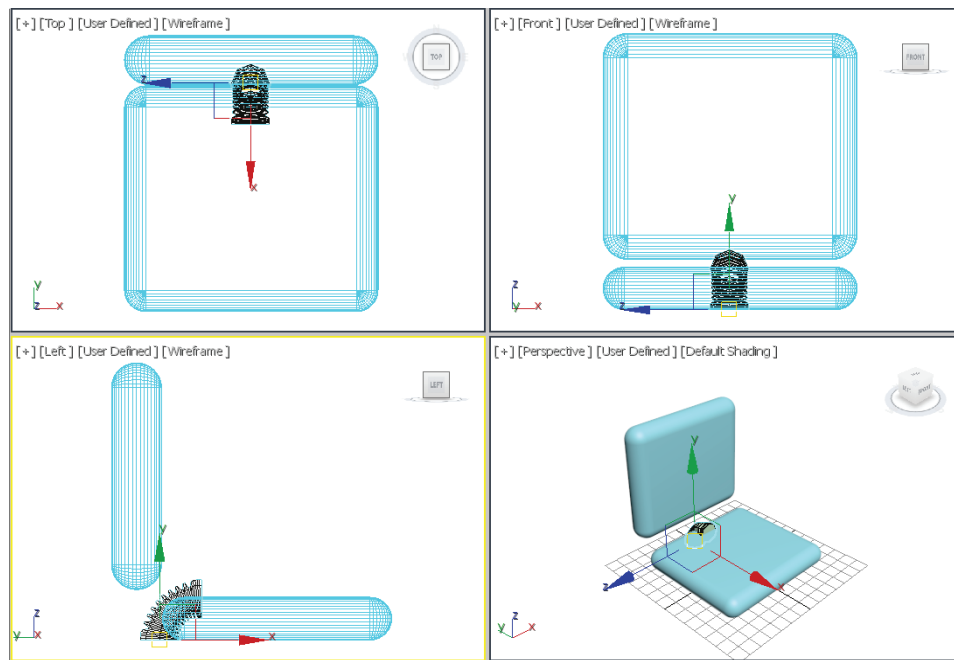

Figure 3-34 The *spring support* geometry after applying the **Bend** modifier
7. After entering the values, *spring support* is displayed, as shown in Figure 3-34.